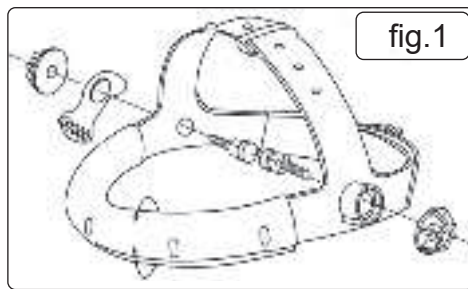

fig.1
- 4.1.1. Unscrew and remove the thumb wheel on one side of the headband (fig 1).